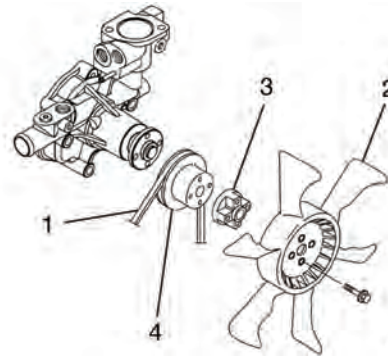

Figure 248
2. Remove the engine coolant fan guard (if equipped), engine coolant fan (2, Figure 248), spacer (3, Figure 248) if equipped, V-pulley (4, Figure 248) and cooling fan V-belt (1, Figure 248).